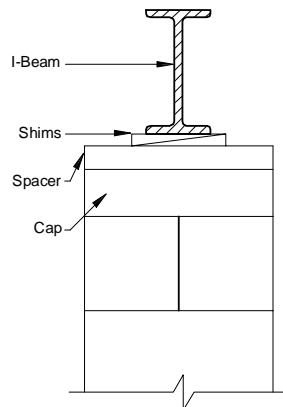

Figure 22. Correct shim placement
- Install shims.** Use shims to level the home and fill any gaps between the base of the I-beam and the top of the pier cap. Always use shims in pairs (Figure 22). Drive them in tightly so they do not occupy more than one inch of vertical space. When the space to be shimmed is greater than one inch and less than the minimum thickness of available caps or concrete blocks, use hardwood dimensional lumber (two inches maximum thickness) or 2" or 4" thick concrete block. For split caps, install shims and dimensional lumber/blocks over each individual cap.